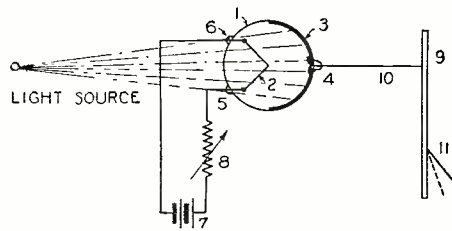

FIG. 3 DEMONSTRATION CIRCUIT
Fig. 3. The ionization of nitrogen. N is the nucleus; E, electron projectile falling toward plate, P; circle enclosing the negative sign, one of the seven electrons knocked off; and circle enclosing + is the remainder of the atom. Fig. 4. The nitrogen atom, which has a diameter of 1/100,000,000 of an inch. N, the nucleus having a diameter of 1/50,000 of the atom. +, the protons, diameter 1/2000 of that of an electron and 2000 times heavier. The dots represent electrons.
The very first cell constructed in the course of the experiments is shown diagrammatically in Fig. 2. We see there a glass container (1) in which is inclosed a filament (2), and a photo-electric plate (3). Contacts 4, 5 and 6 were brought to the outside. This tube was connected as shown in Fig. 3, where we see the tube connected to a battery (7) for lighting the filament, which can be regulated by means of a rheostat (8). If we connect the sensitive plate by means of a wire (10) to the stem of a sensitive electrometer (9), we see that the gold leaf (11) takes a position, depending upon the electronic charge which accumulates upon the photo-electric plate (3), as a result of the thermionic emission from the filament. If light now falls upon the cell, the photo-electric emission will come into play, and therefore the plate will lose some of its charge, with the result that we see the gold leaf fall down and take a second position, as indicated by the dotted line. As soon as the light source is removed, the gold leaf takes its original position. We can make this effect even stronger by interposing between the filament and the sensitive plate a grid, which is held at a constant positive potential, as is shown in Figs. 4 and 5.